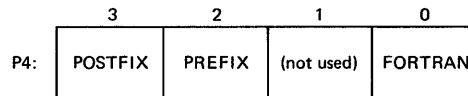

Figure 5-2 P4 Carriage Control Specifier
**5.4.1.1 Write Function Carriage Control** - The P4 argument is a longword that specifies carriage control. Carriage control determines the next printing position on the line printer. (P4 is ignored in a write physical block operation.) Figure 5-2 shows the P4 longword format.